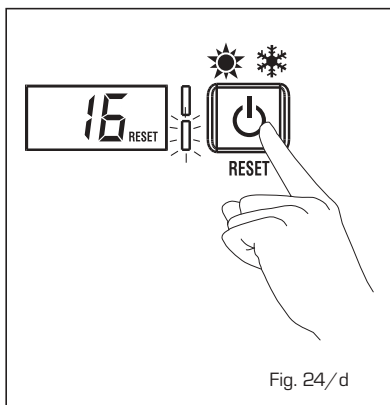

Fig. 24/d
- **HEATING PROBE POSITIONING ANOMALY SM1/SM2 "ALARM 16"** (fig. 24/d)